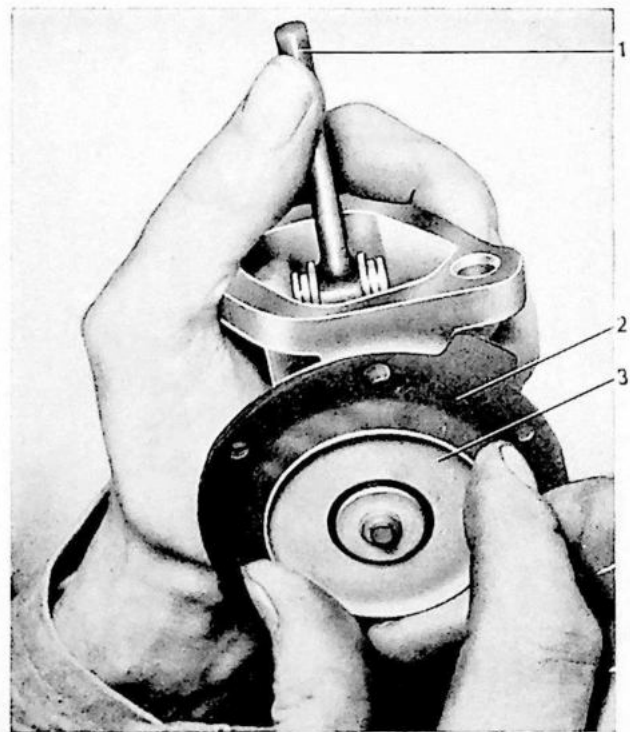

Fig. 73. Replacing the diaphragm.
2. Take the lower half in the left hand as shown in Fig. 73 and press the rocker (1) with the left thumb. Depress the washer (3) with the right-hand thumb and fore-finger. Then rotate one quarter turn and remove the washer, diaphragm (2) and pull rod.